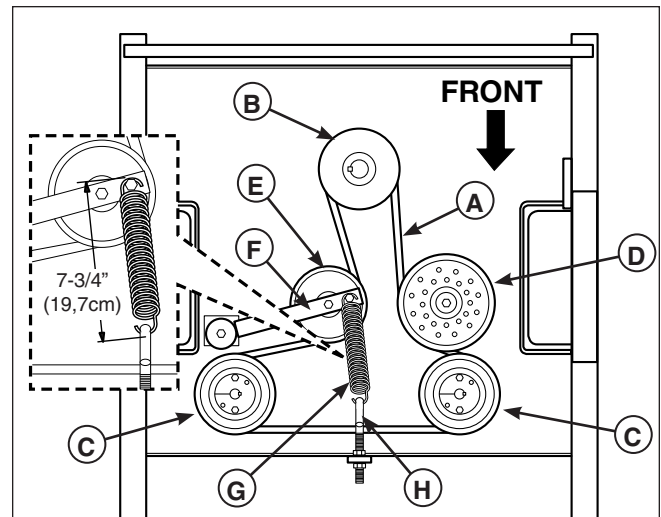

Figure 50. Hydraulic Pump Drive Belt Replacement
3. Loosen the nut towards the front of the machine on the spring anchor hook (H, Figure 50) to release the majority of the belt tension. Use caution and remove the nut to completely release the tension.
5. Reinstall the anchor hook (H) into the anchor tab and loosely fasten the nut. Adjust the spring until a measurement of 7-3/4" (19,7cm) is achieved from the outside of the spring hooks. Tighten nut.